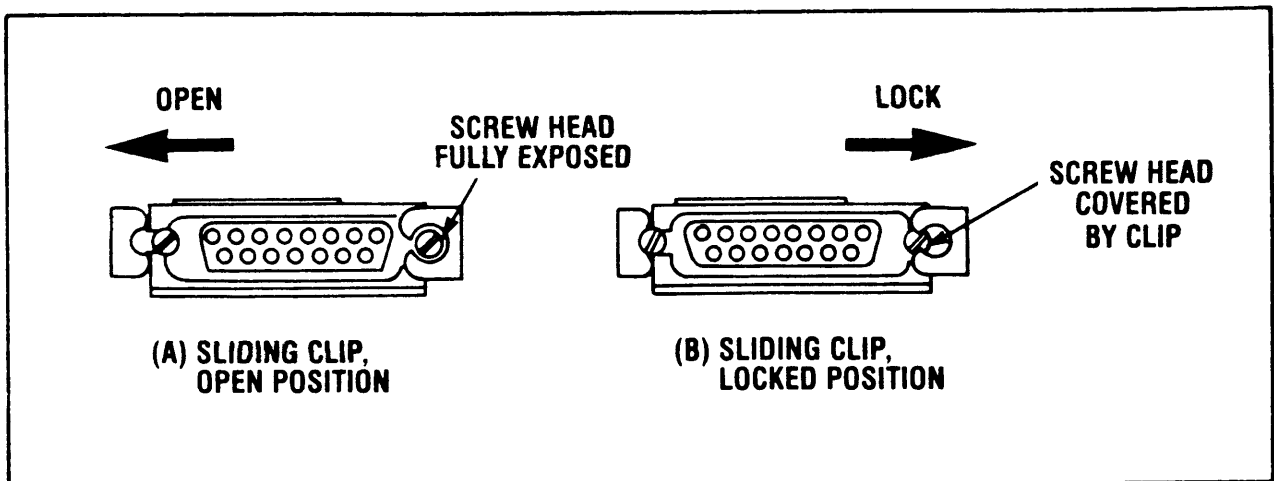

Figure 2-7. Securing Cable Hold-Down Clips
Following the instructions below, connect the male end of the IEEE 802.3 AUI cable, Ethernet branch cable, or ThinMAU cable (whichever is installed) to the 15-pin female D connector on the LANIC card. Be certain that the connector hold-down hardware is secure. The hold-down hardware is a sliding clip mechanism that captures the slotted studs on the opposing connector. This is illustrated in Figure 2-7.
- a) Slide the hold-down clip to the "open" position (see Figure 2-7(A)).
- c) Slide the hold-down clip to the "locked" position (see Figure 2-7(B)). This hold-down clip prevents accidental cable disconnection during operation.